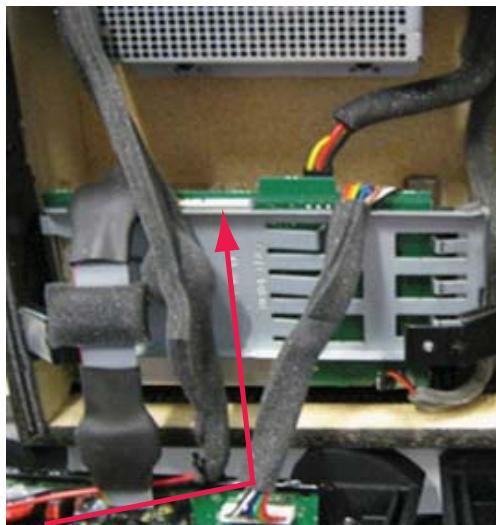

Figure 4.
**2.7** Route the Primary PWR Cable to the inside of the coated flex cable. See figure 4.